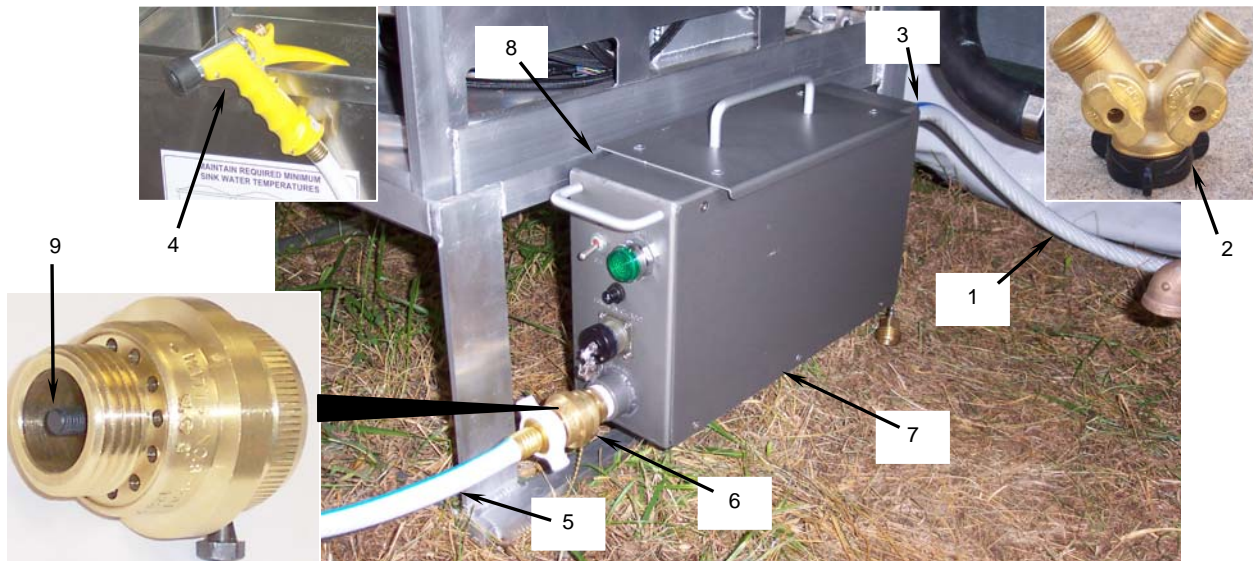

Figure 38. Sink Fill Pump Assembly Removal.
- b. Disconnect the 50-ft water supply hose (**Figure 38, Item 1**) from the potable water source.
- c. Disconnect the Y-adapter (**Figure 38, Item 2**) if used and secure for pack out.
- d. Disconnect the 50-ft water supply hose (**Figure 38, Item 1**) from the water inlet (**Figure 38, Item 3**) at the back of the sink fill pump assembly. Drain and roll the hose. Connect the ends of the hose together.
- e. Disconnect the water nozzle (**Figure 38, Item 4**) from the 15-ft sink fill hose (**Figure 38, Item 5**).
- f. Disconnect the 15-ft sink fill hose (**Figure 38, Item 5**) from the vacuum breaker (**Figure 38, Item 6**) at the front of the sink fill pump assembly. Drain and roll the hose. Connect the ends of the hose together.
- g. Lift the sink fill pump assembly (**Figure 38, Item 7**) off the sink assembly base rack (**Figure 38, Item 8**).
- h. Tilt the sink fill pump assembly to empty residual water out of the sink fill pump assembly inlet (**Figure 38, Item 3**).
- i. Tilt the sink fill pump assembly and lightly pull stem (**Figure 38, Item 9**) from inside the vacuum breaker to empty residual water out of the sink fill pump assembly outlet.